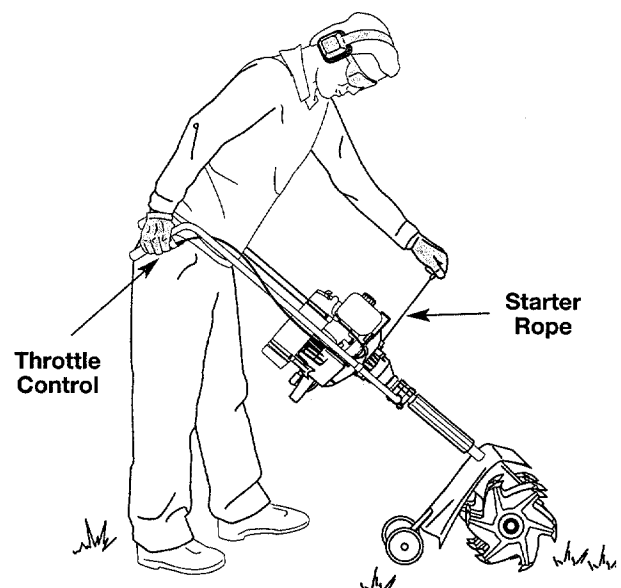

Figure 19
**WARNING:** Avoid accidental starting. Be in the starting position when pulling the starter rope. See Figure 19. The operator and unit must be in a stable position while starting to avoid serious personal injury.
7. Pull starter rope briskly 1 to 3 times to start the engine. See Figure 19.
1. Release your hand from the throttle control. See Figure 19. Allow the engine to cool down by idling.